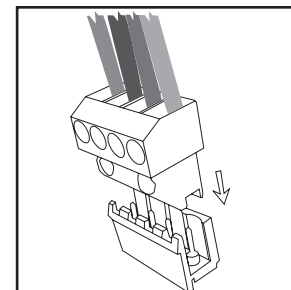

Figure 5
- 4.) Insert both input and output terminals into the proper locations on the volume control; see Figure 5.